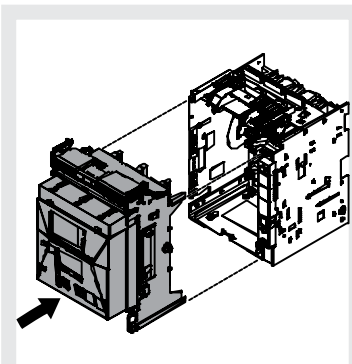
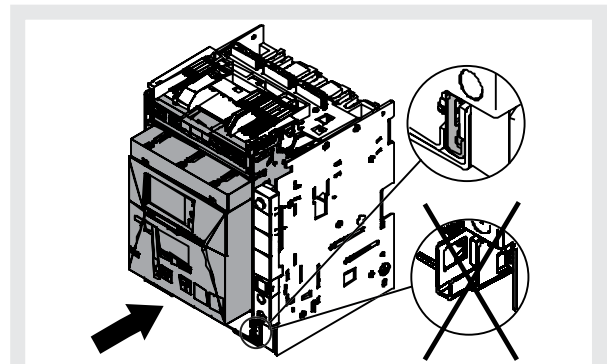

Figure 41
Figure 42
3. Position the moving part in the fixed part and push until it comes to a stop. See Figure 41 and Figure 42.